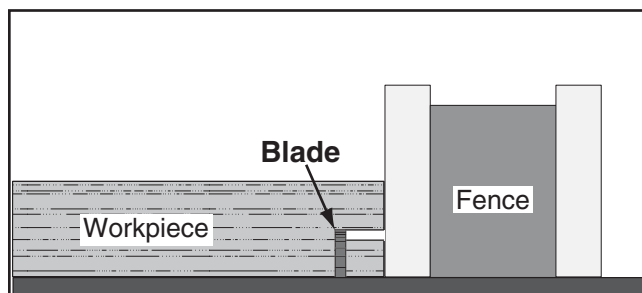

Figure 92. Second cut to create a rabbet.
7. Lay the workpiece flat on the table, as shown in **Figure 92**, adjust the saw blade height to intersect with the first cut, then perform the second cut to complete the rabbet.